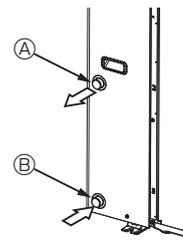

Fig. 4-1
### 4.1. Water piping connection (Fig. 4-1)
- Inlet and outlet pipes position is shown on the Fig. 4-1.
[Fig. 4-1]